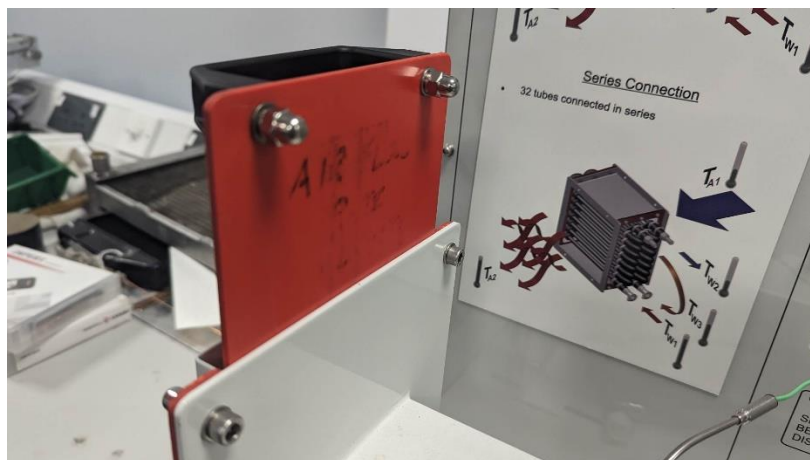
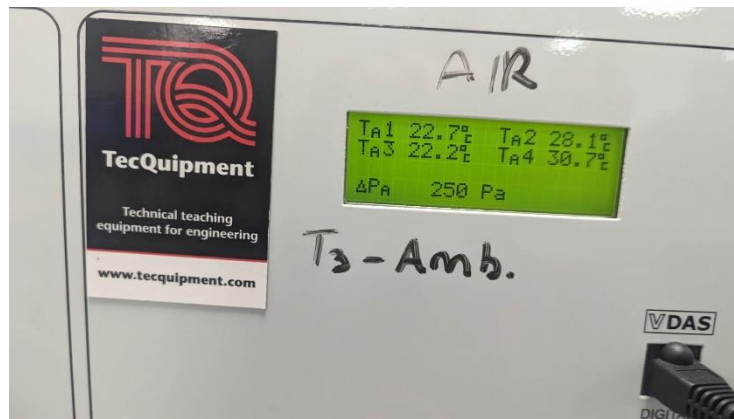

Figure 4. Orifice Pressure control valve.
Figure 5. Digital screen showing the orifice pressure (Pa).
C) Next, switch on the fan and using the valve shown in Figure 4, set the airflow so that the orifice pressure is 250Pa (+/-5 Pa) by gently sliding it up and down until the value is reached. You can see how the pressure is changing on a digital screen as shown in Figure 5.